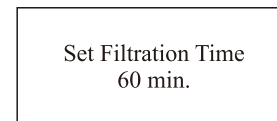

Figure 8
B. Filtration working time settings, as shown in Figure 8. Press or to set the value. Then press to save the setting and return to menu; if press , it will not save the setting and return to the menu. When the filtration working time counts down to 0, the system start backwash.